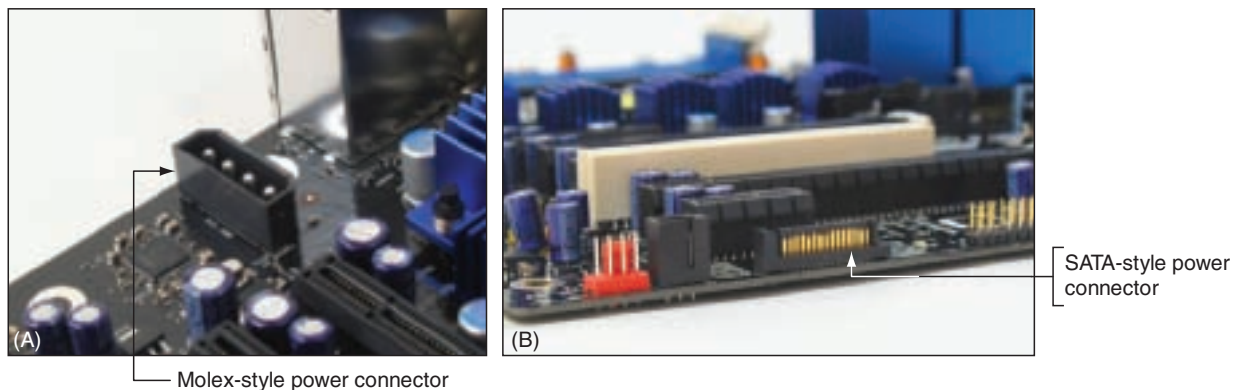

Figure 5-51 Auxiliary power connectors to support PCIe
- ▲ Some boards designed to support multiple PCIe video cards will have additional power connectors on the board to power these wattage-hungry cards. For example, Figure 5-51(a) shows a 1 x 4 Molex-style connector on one board that provides auxiliary power to PCIe graphics cards. This same board offers a SATA-style connector, shown in Figure 5-51(b). The motherboard documentation says to use just one of these auxiliary power connectors to provide additional wattage for PCIe video cards.